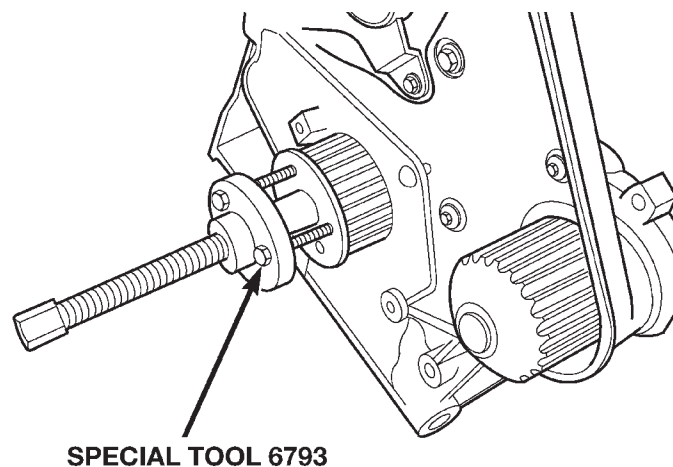

Fig. 85 Crankshaft Sprocket—Removal
(2) Remove Timing Belt. Refer to procedure in this section.
(3) Remove Oil Pan. Refer to procedure in this section.
(4) Remove Crankshaft Sprocket using Special Tool 6793 and insert C-4685-C2 (Fig. 85).